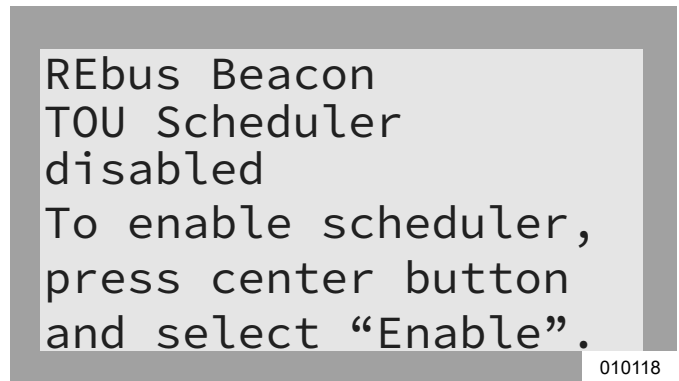

Figure 6-23. Disabling Beacon (3 of 3)
4. See Figure 6-23. The status line on the Beacon device page will read Disabled.